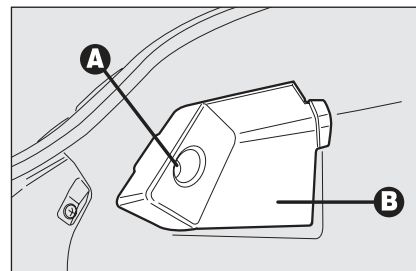

fig. 37
- ☐ loosen screw **A-fig. 37** and remove the protection cover **B**;
- ☐ refit the protection cover **B-fig. 37** and tighten screw **A**.